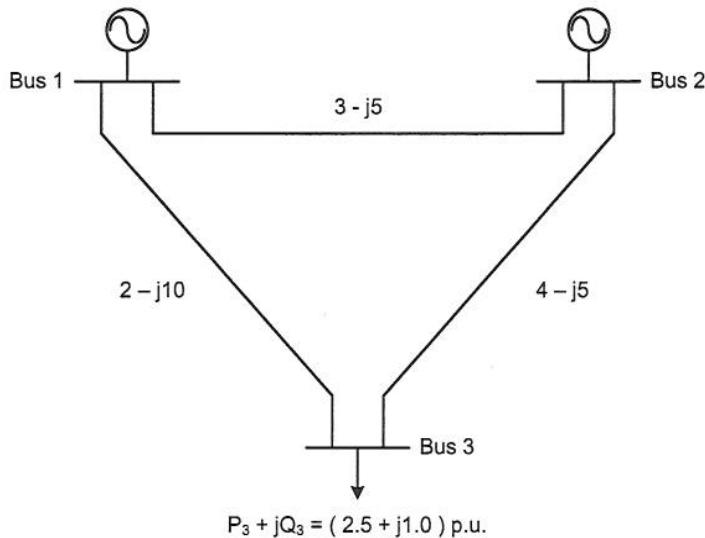

Figure 5.1: A three-bus power system model
- (b) Figure 5.1 describes a 3-bus power system model. The load at bus 3 is $(2 + j1.0)$ p.u. The generation at bus 1 is fixed at 1.0 p.u. All the bus voltage angles are expressed with respect to that of bus 1. The line parameters are shown in the diagram. The objective is the minimisation of generation at bus 2 which, in the context of this problem, is also equivalent to minimising total power loss in the system. For this objective